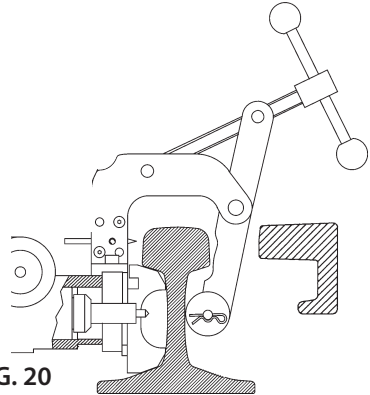

FIG. 20
- Use on running rails (Ref. to Fig. 20)